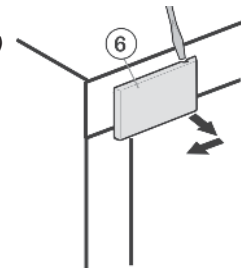

Fig. 13
- ▶ Loosen cover that is on the handle side Fig. 13 (6) using a screwdriver and remove by pulling outwards.